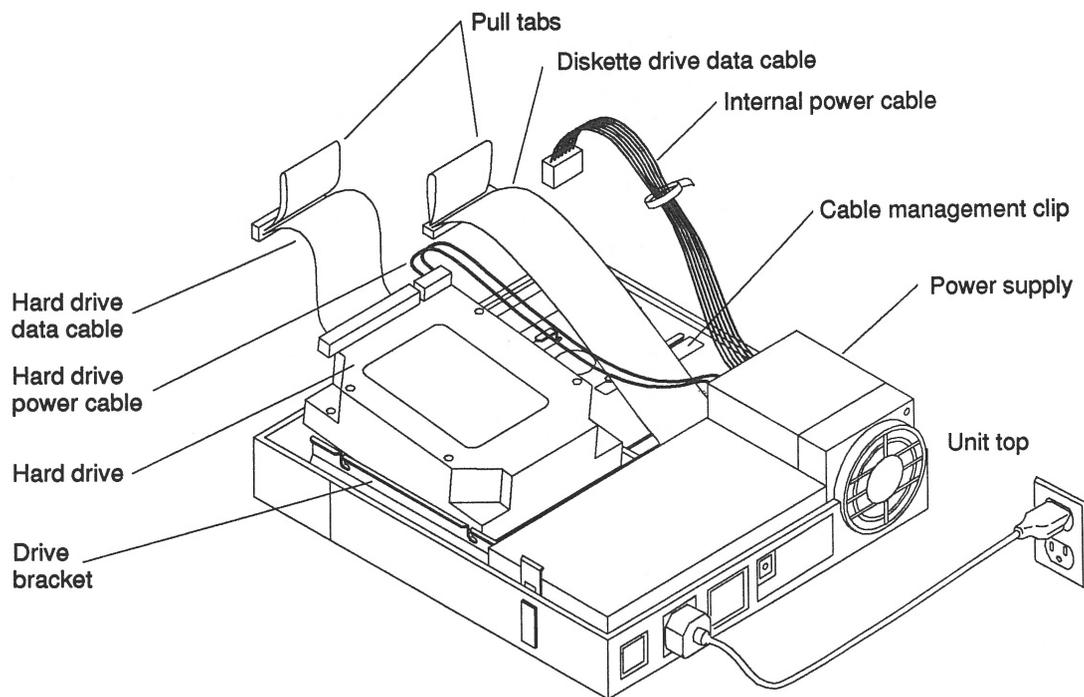

Figure 7-7 Removing a Hard Disk Drive
- 6. Disconnect the drive data cable from its connector on the main logic board. Refer to Figure 7-7.**
- 7. Disconnect the power cable from the hard drive. Refer to Figure 7-7.**